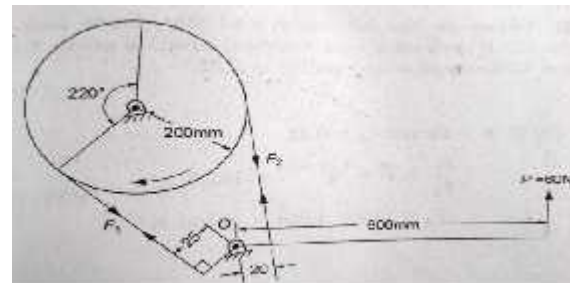

fig:15
15. The dimensions of a brake drum are shown in fig:15, determine the torque exerted on the drum, if the load P is equal to 60 N, assume coefficient of kinetic friction between belt and drum to be 0.20.